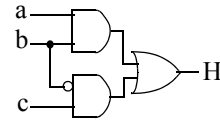

Figure 2.80
- 2.51 Determine whether the Boolean function $G = a'b'c + ab'c + abc' + abc$ is equivalent to the function represented by the circuit in Figure 2.80.